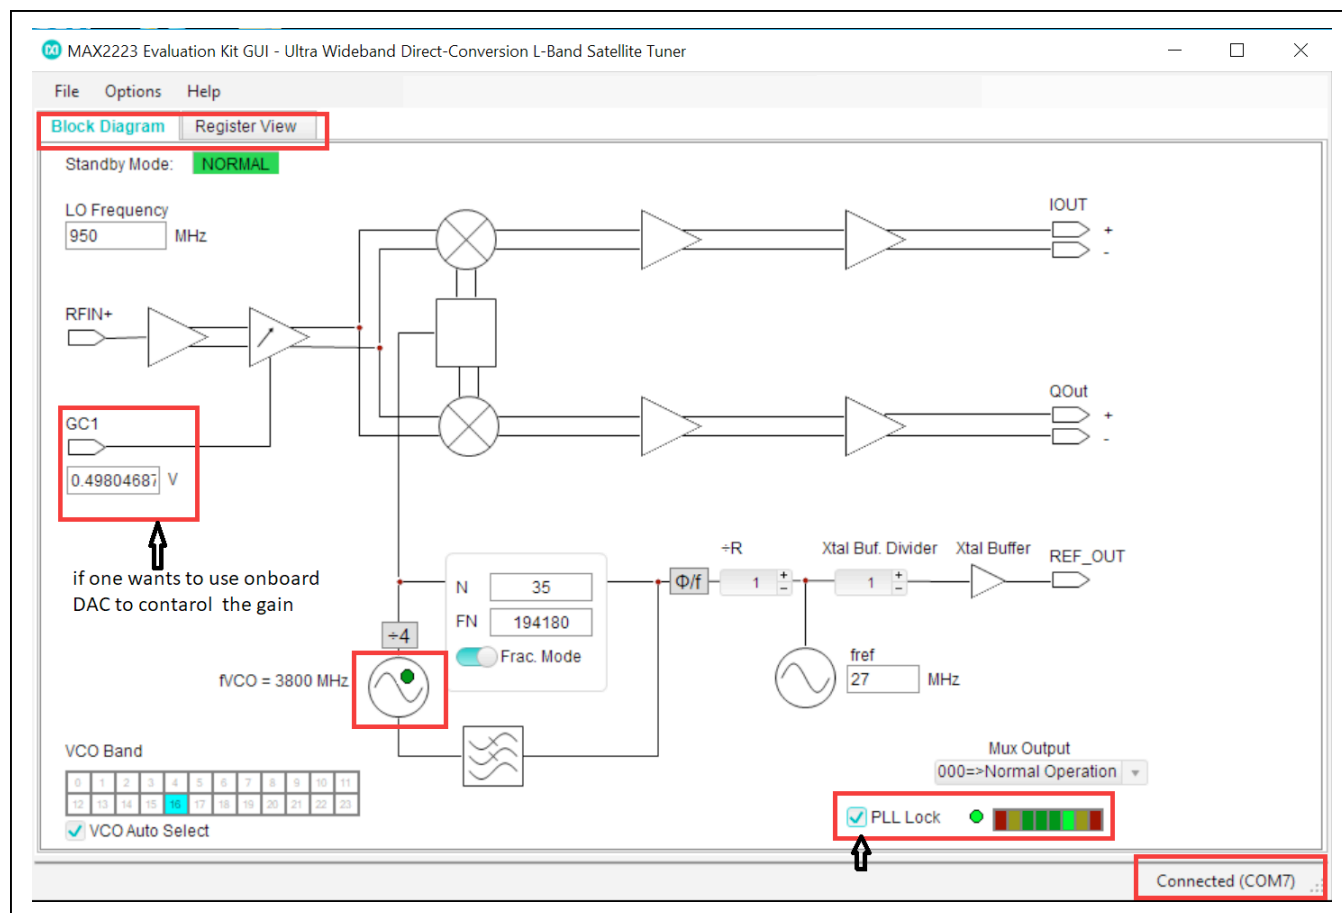

Figure 1. GUI View
- Double-click on the *Max2223 EVKIT GUI.exe* icon which will be on the desktop in order to start the GUI. One should see that the EV kit is connected by the *Connected* message at the bottom-right corner of the GUI display. See Figure 1.
- To see the lock status of the PLL, simply left mouse click on the *PLL Lock* box in order to enable it. A check mark will appear in the box if it is enabled. If everything is functioning normally, one should see the GUI change to resemble Figure 1. Note that the *PLL Lock* widget is now illuminated green and one of